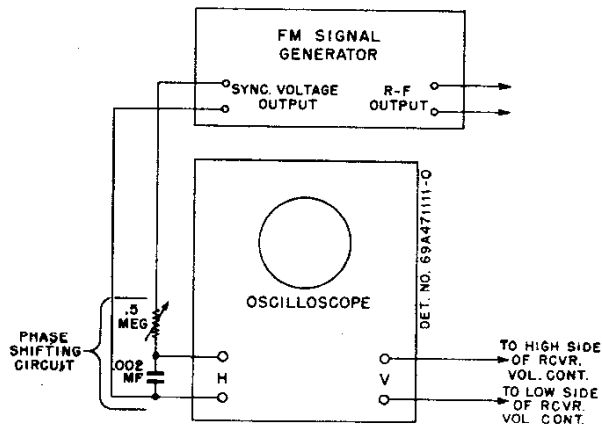

FIGURE 3. SIGNAL GENERATOR & OSCILLOSCOPE HOOKUP
2. Connect the FM generator synchronizing voltage output terminals to a phase shifting network consisting of a variable 1/2 megohm resistor in series with a .002 mf capacitor. The input to the oscilloscope horizontal amplifier is connected across the .002 mf capacitor. See Figure 3. (This phase shifting network may not work with every oscilloscope. Different values of R & C may be required).
4. Back out ratio detector transformer secondary core (8) several turns and then adjust ratio detector transformer primary (9) for maximum amplitude. The phase shifting network resistor is adjusted to give only one trace.